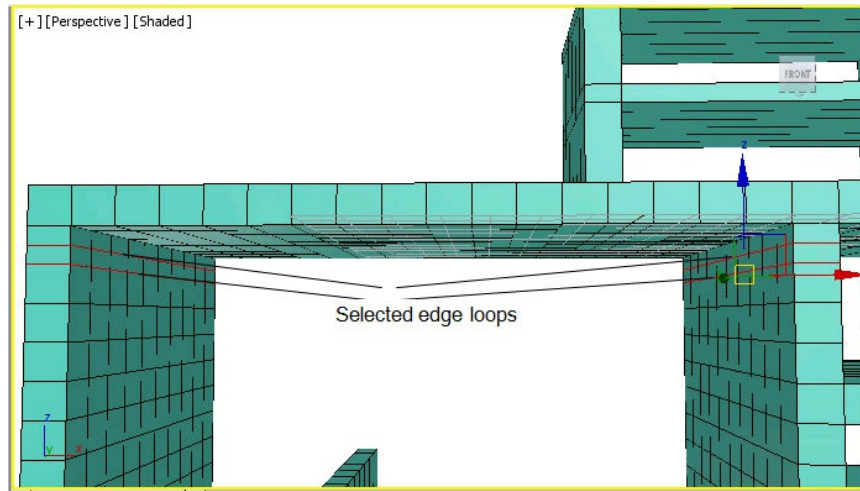

Figure 9-86 Selected edge loops
4. Choose the **Loop** tool from the **Modify Selection** panel; two edge loops get added to the selection, as shown in Figure 9-86.